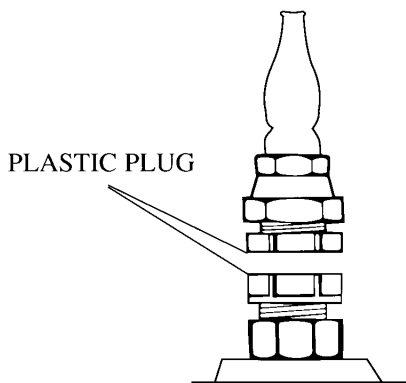

Figure 12
*Note: Protect the open halves of the couplings with the plastic plugs supplied, to avoid dirt entering the joints. If you intend to keep disconnected for a while tighten the plastic plugs with a spanner (see figure 12).*